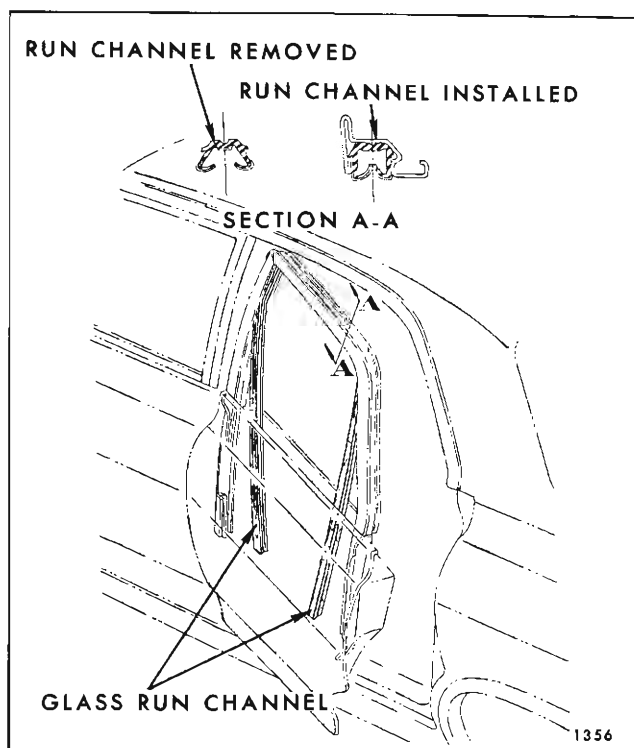

Fig. 2D42—"69" Style Rear Door Window Glass Run Channel Assembly
4. Rotate glass upward and forward to disengage lower sash channel cam from regulator lift arm roller and remove door window outboard of door upper frame (See Fig. 2D41, View A and B).
A rotated door window can be corrected by adjusting the inner panel cam (See Fig. 2D40).